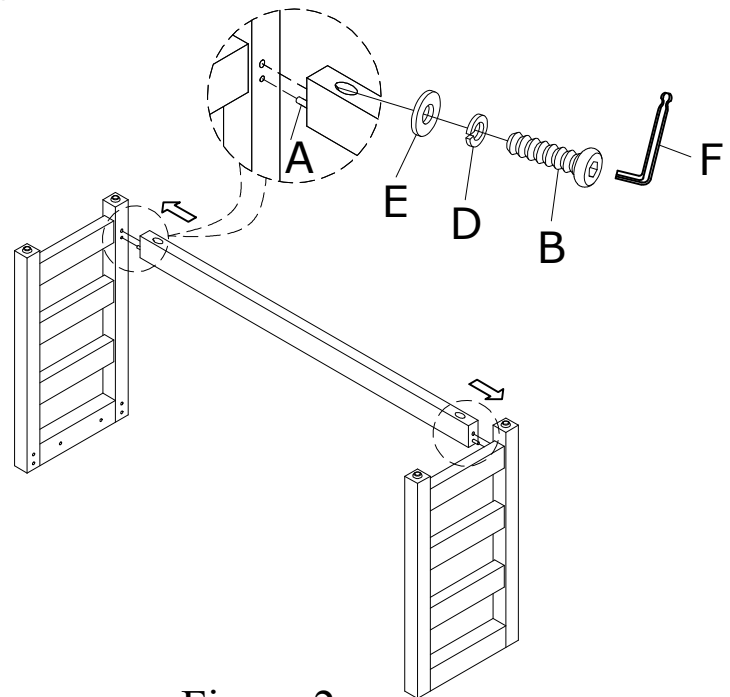

Figure 2
3. Attach two legs to the top using Allen Bolt (C), lock washer (D), flat washer (E) and the Allen Wrench (F). As Shown in Figure 2. (Do not over tighten bolts during assembly)